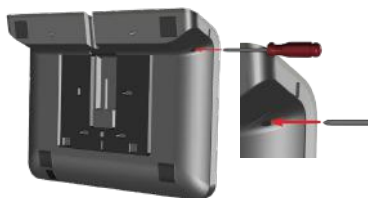

Figure 10: Foot Release
3. While pressing and holding the tool into the hole, slide the foot to the left and lift it away from the device as shown in Figure 10.